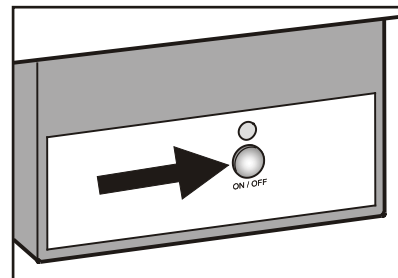

Figure 21
*The ice maker can also be turned on and off by pressing the "ON/OFF" button at the ice maker housing for approximately 1 second (**Figure 21**).*